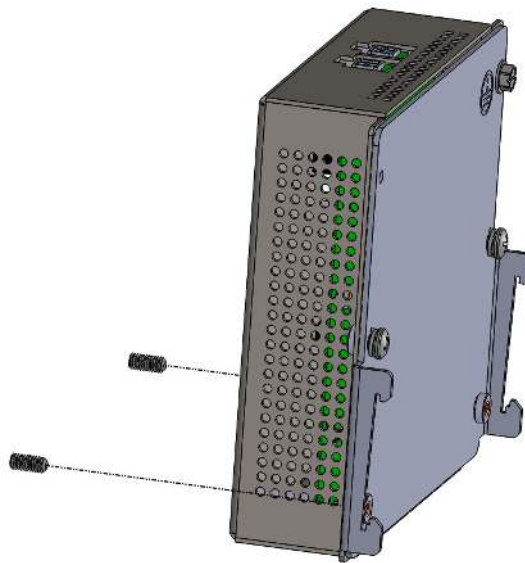
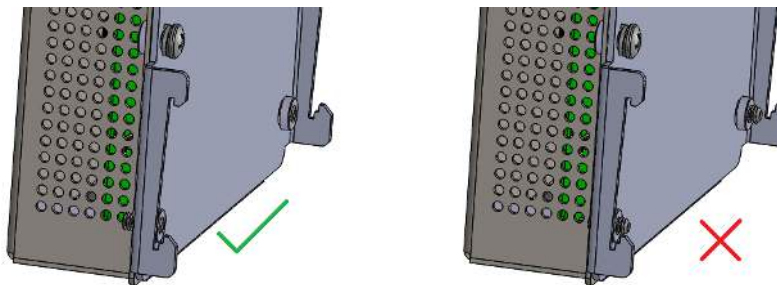

Figure 8. Installing set screw
Figure 9. Set screw insertion
6. Insert set screws through Bulkhead into bracket nuts, shown in Figure 8. Do not extend past the nut in the bracket or it may cause difficulty mounting to the DIN rail, as shown in Figure 9.